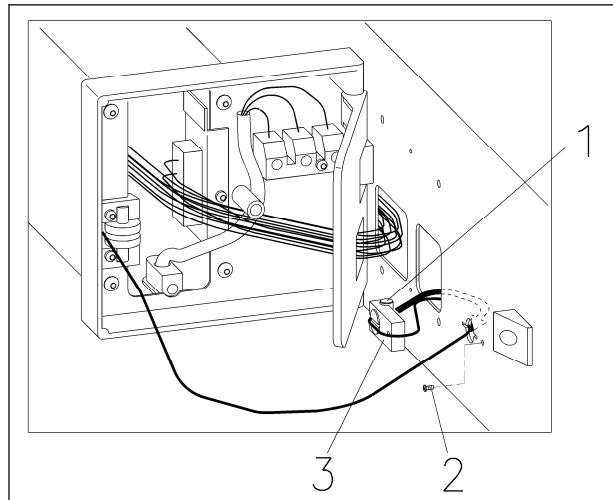

Figure 010-7: Bowden Cable Pin
16. Feed the Bowden cable pin through the round opening in the table and then through the opening behind the hinge to the outside of the table (Figure 010-7, Item 1).
17. Install the Bowden cable pin and Bowden cable cord in the Bowden cable holder (Figure 010-7, Item 3).
19. Secure the retaining screw in the Bowden cable holder (Figure 010-7, Item 2).